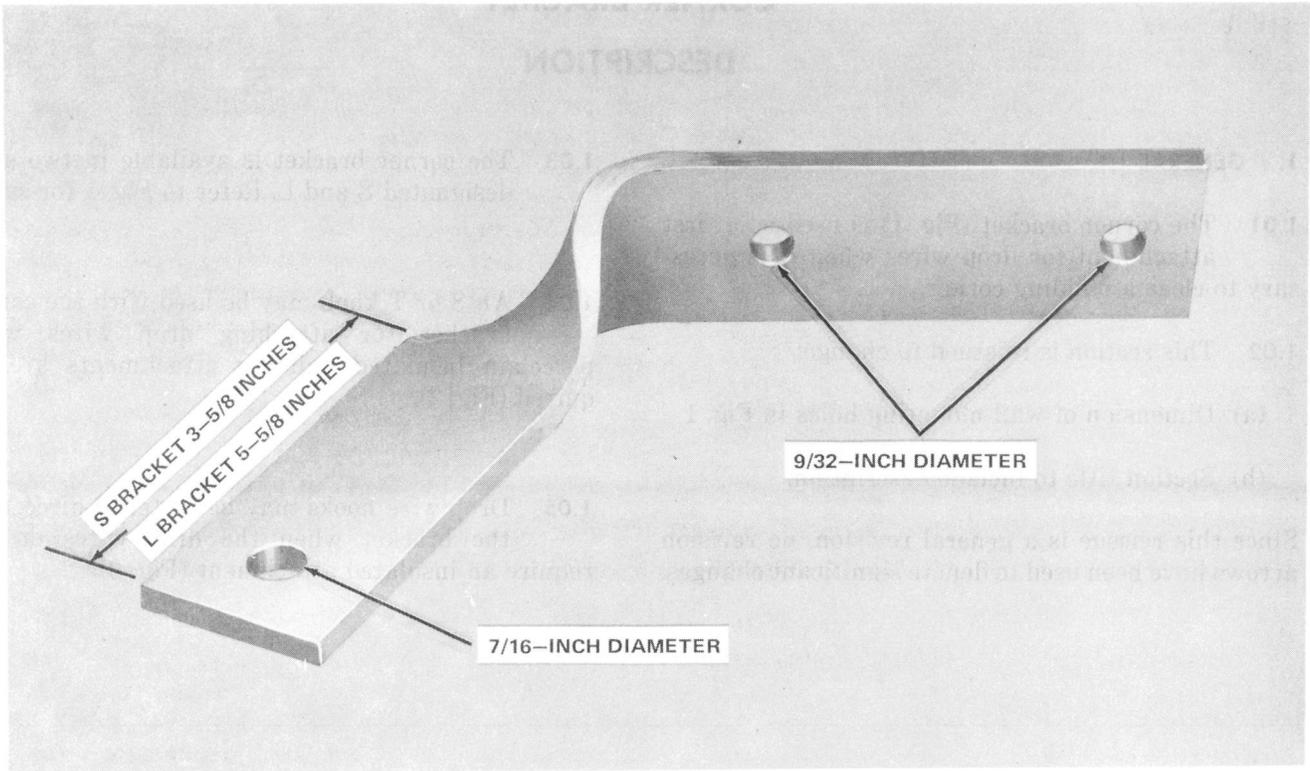

Fig. 1—Corner Bracket
**1.01** The corner bracket (Fig. 1) is used as a first attachment for drop wires when it is necessary to clear a building corner.
- (a) Dimension of wall mounting holes in Fig. 1
**1.03** The corner bracket is available in two sizes designated S and L. Refer to Fig. 1 for size.